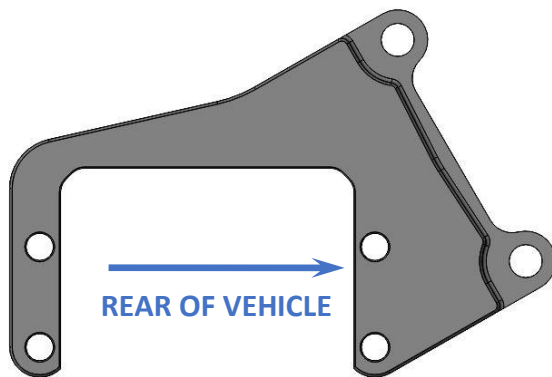
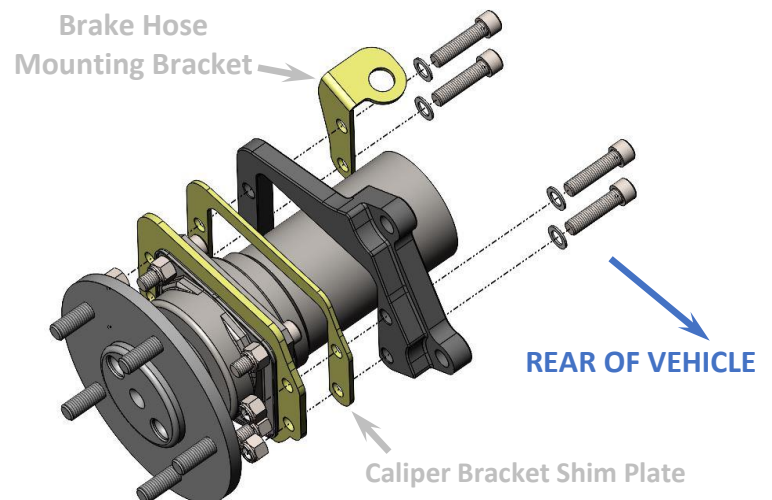
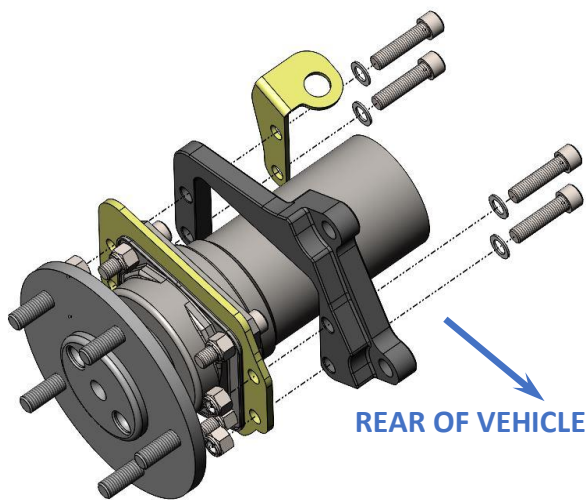
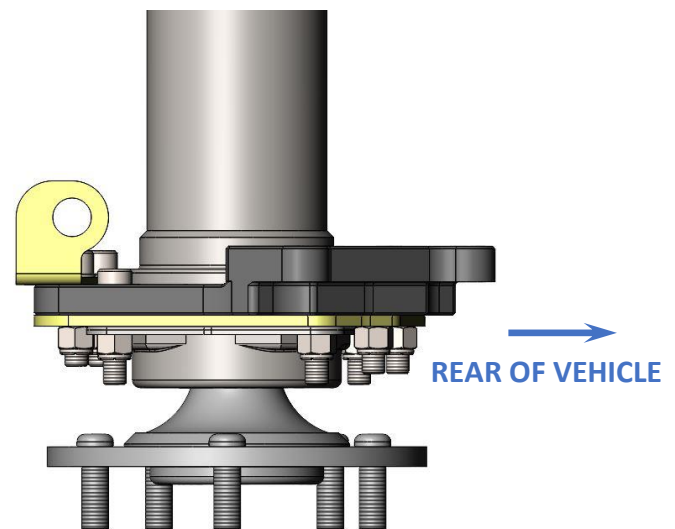

Figure 4a – Aluminum Caliper Bracket Orientation
Figure 4b – Caliper Mounting Bracket Installation (2.375" STANDOFF)
Figure 4c – Caliper Mounting Bracket Installation (2.500" STANDOFF)
Figure 4d – TOP VIEW Aluminum Caliper Bracket Installed
7. Install the Aluminum Caliper Mounting Bracket next. **NOTE: The Aluminum Caliper Mounting Brackets are left and right specific and designed to position the calipers towards the rear of the vehicle as shown below in Figure 4a.** If in Step 6 you determined standoff was 2.375", install the Caliper Bracket Shim Plate in between the Caliper Bracket Mounting Flange and the Aluminum Caliper Mounting Bracket as seen in Figure 4b below. If in Step 6 you determined the standoff of the axle to be 2.500", a Caliper Bracket Shim Plate is not required. Mount the Aluminum Caliper Mounting Bracket directly to the Caliper Bracket Mounting Flange as shown below in Figure 4c. **Make sure that the 2 forward most bolts go through the supplied Brake Hose Mounting Brackets.** These brackets are left and right specific and are designed so the tab faces inward to the vehicle. Use the supplied 3/8"-24 x 1.500" Socket Head Cap Screws, 3/8" AN Flat Washers, and 3/8"-24 Nylon Lock Nuts and attach the Aluminum Caliper Bracket with caliper towards the rear of the car. Torque to 40 lb/ft. Figure 4d below shows a top view of the components completely installed (2.500" Standoff).